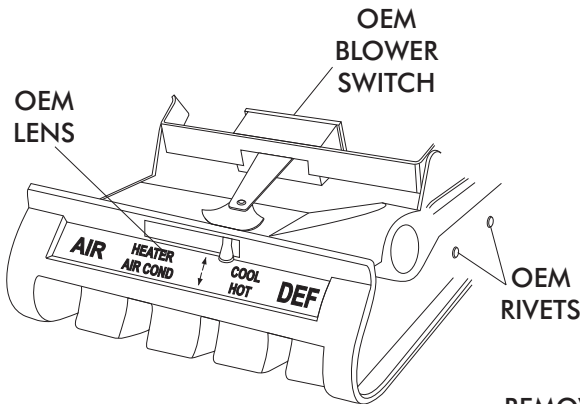

FIGURE 2
- DRILL OUT THE (4) OEM RIVETS ON EACH SIDE OF THE CONTROL PANEL. SEE FIGURE 2.
- DISASSEMBLE OEM LENS FROM CONTROL PANEL SEE FIGURE 2 BELOW.